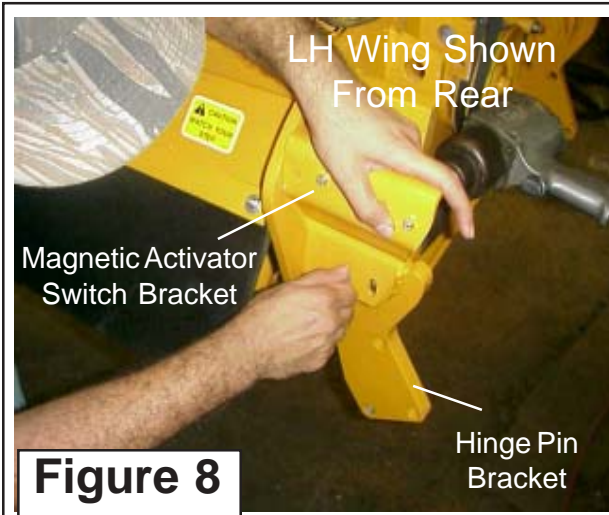

Figure 8
4. Install Mower Rear Mounting Brackets & Magnetic Switches. The Mower Hinge Link has a LH & RH (See Figure 7). These brackets will slide over the Hinge Pin which is bolted to the mower deck at the factory. There are two Threaded holes in the end of the hinge pin (See Figure 7) These two holes serve dual purpose. First they hole the hinge bracket on and the Magnetic Activator Bracket on. Some times you will need to loosen the Hinge pin to align the two holes so the bracket will bolt on. (See Figure 8 & 9). Tighten the two mounting bolts in to the hinge pin. The Hinge bracket will still turn free.
7. Slip clutch is incorporated in the PTO driveline. It is designed to slip, absorb the shock load, and protect the driveline. It is important that the clutch lining plates slip when an obstacle or load heavier than clutch setting is encountered. Therefore, if the machine sits outside longer than 30 days and is exposed to rain and/or humid air it is important to make sure that the clutch lining plates are not rusted/corroded together. Before using the mower use the following procedure to make sure the clutch will slip and give the overload protection required. (See Figure 8) This is a required step because the driveline has been sitting and may be stuck.